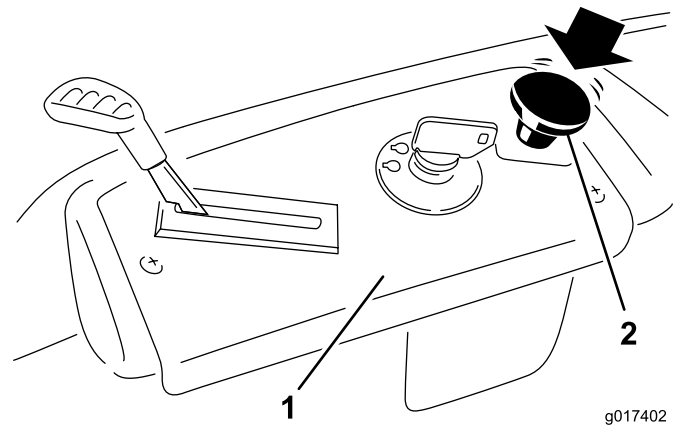

Figure 15
Push down on the blade control switch to move it to the Off position and disengage the blades (Figure 15).
- Disengage the blades by moving the blade control switch to Off (Figure 15).